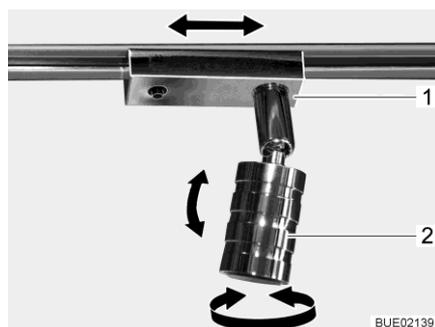

Fig. 84 Spotlight
- Grasp the housing (Fig. 84,2) and turn it.
- Grip socket (Fig. 84,1) and turn by approx. 45°.
- Grip socket (Fig. 84,1) and turn by 90°.